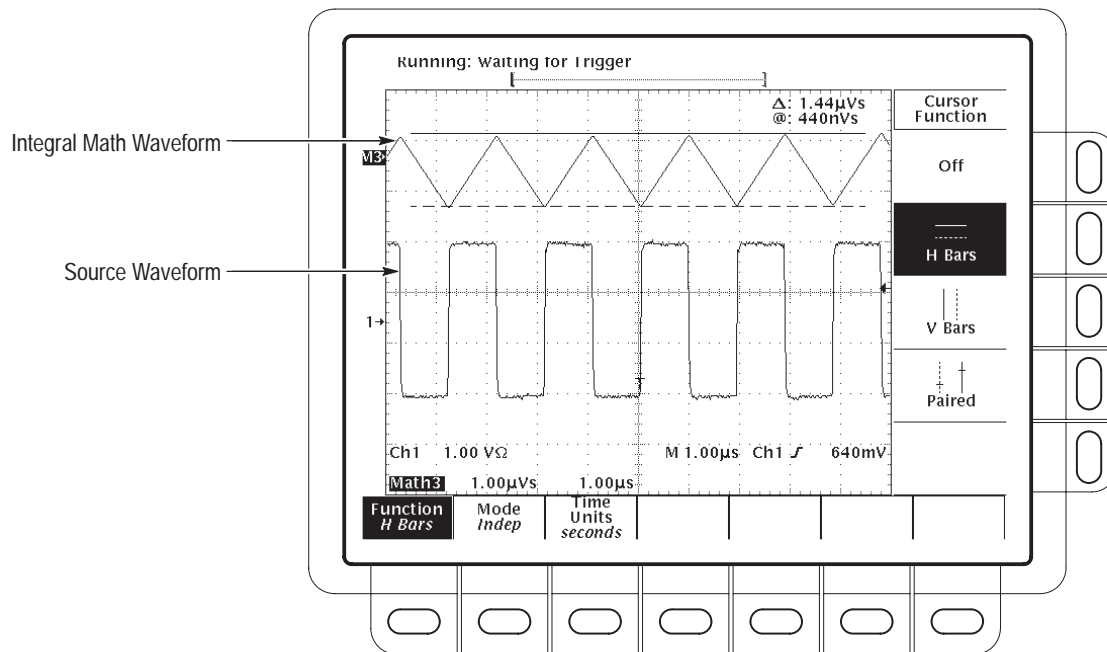

Figure 3-76: H Bars Cursors Measure an Integral Math Waveform
6. Read the integrated voltage over time between the cursors in volt-seconds from the **Δ:** readout. Read the integrated voltage (vertical units) over time between the selected cursor and the reference indicator of the math waveform from the **@:** readout. See Figure 3-76.